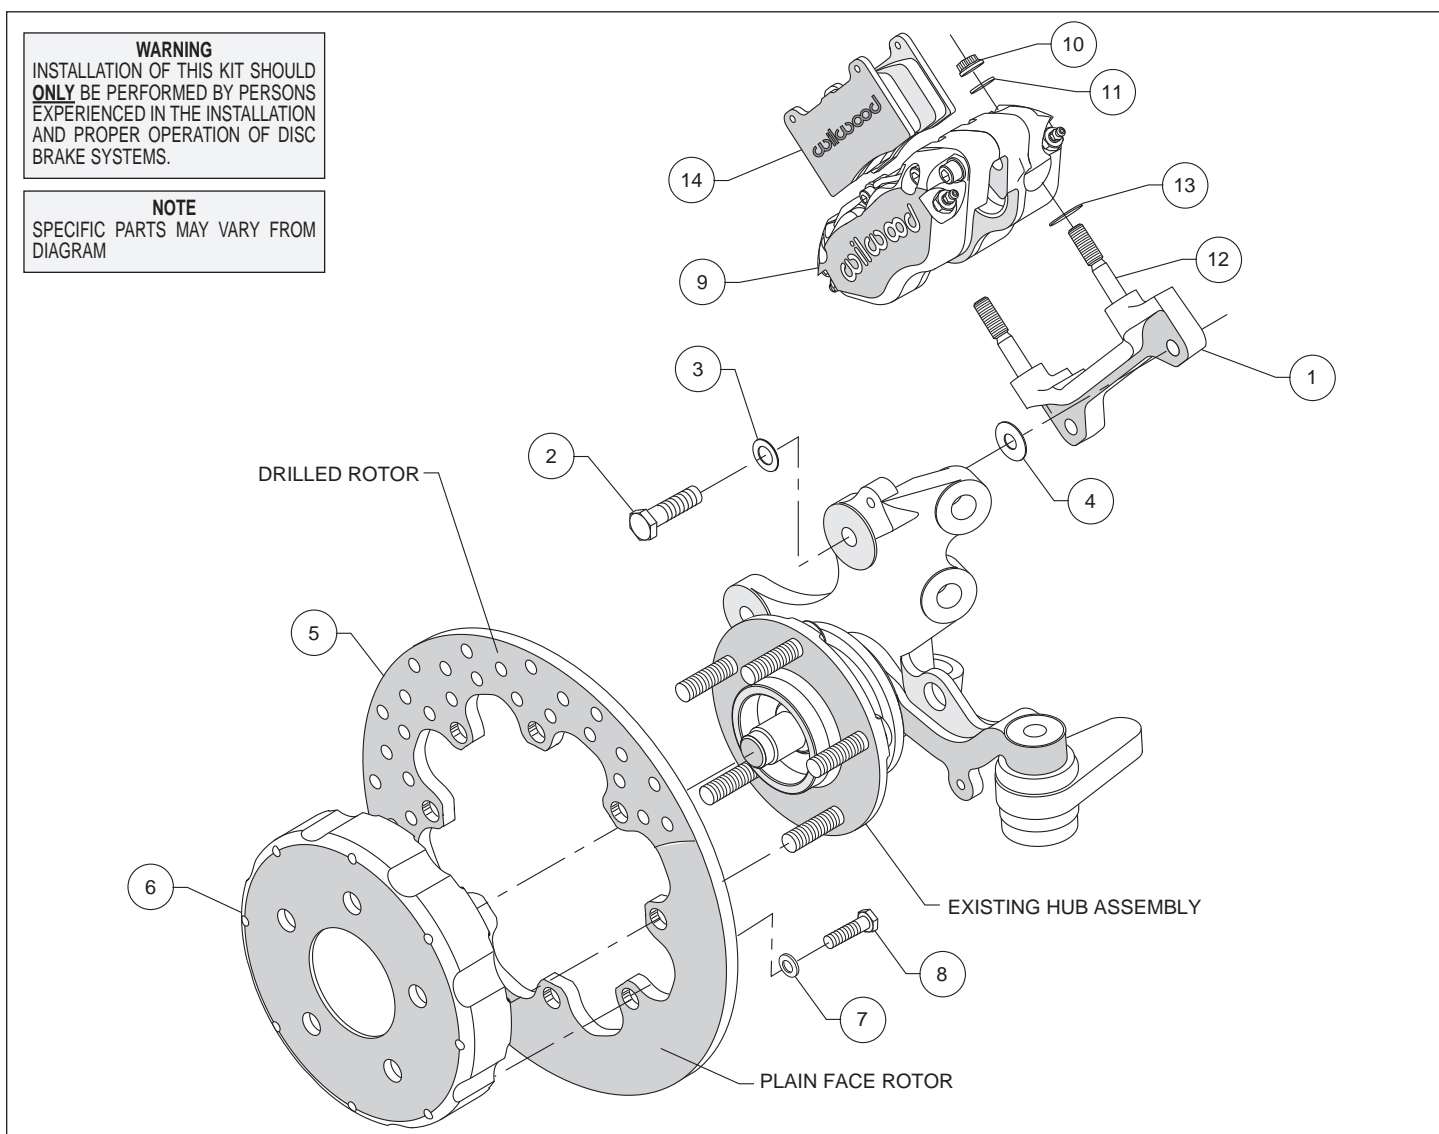
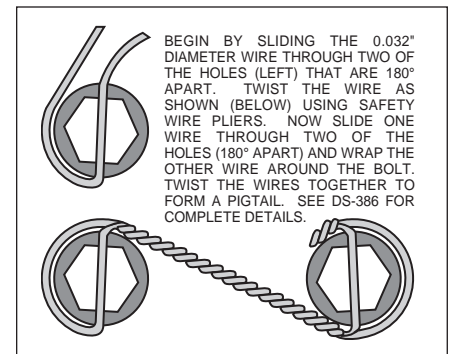

Figure 1. Typical Installation Configuration
Figure 3. Safety Wire Diagram
- The caliper mount bracket assembly (1) should be installed first with clean, dry threads on the mounting bolts. Install the bracket on the inboard side of the spindle by sliding bolt (2) through flat washer (3), and spindle ear from the outboard side of the spindle. Place shim washer (4) between the bracket (1) and the spindle (see figure 1). The bracket must tighten squarely against the inboard side of the caliper mount bosses on the spindle body. Inspect for interference from casting irregularities, machining ridges, burrs, etc. Use one thin shim (4) between the bracket and spindle during initial trial fitting. Later, after the caliper, pad, and rotor alignment has been checked, and any necessary shims have been put in place, the mount bolts should be coated with red *Loctite*® 271 and torqued to 60 ft-lbs.
- Assemble the rotor (5) to the hat (6) with the bolts (8) and washers (7) as shown in Figure 1. Using an alternating sequence, apply red *Loctite*® 271 to the threads and torque bolts to 25 ft-lb. For an added measure of security, the bolts may be safety wired using standard 0.032 inch diameter stainless steel safety wire as shown in Figure 3-. Please refer to Wilwood's data sheet DS-386 (available at www.wilwood.com/Pdf/DataSheets/ds386.pdf) for complete safety wire installation instructions.
- Lubricate caliper mounting studs (12) and nuts (10) with lightweight oil. Install one shim (13) over each stud (12) on the radial mount bracket. Slide the caliper (9) in place over the studs and rotors and install the washer (11) and lock nut (10) to hold the caliper in place. Snug the lock nuts (10) and check that the rotor (5) is centered in the caliper (9). Add or subtract .015" shims (4) as necessary between the mount bracket and the spindle to center the caliper.
- Remove the caliper center bridge pad retainer bolt, nut, and tube from the caliper. Slide the brake pads (14) into place. They should install easily without interference. Check that the outside radius of the brake pad is aligned with the outside diameter radius of the rotor face. Add or subtract shims (13) between the caliper and mount bracket to gain the proper alignment. Reinstall the center bridge pad retainer tube, bolt, and lock nut. The locknut should be snug without play in the bolt or tube. Be cautious not to over tighten.
- Once all clearances have been checked, remove the wheel, caliper, hat, and rotor from the spindle and hub. Secure the caliper mounting bracket (1) to the spindle using red *Loctite*® 271. Torque the bolts to 60 ft-lbs. Reinstall the hat and rotor assembly and again use several lug nuts to hold it in place. Reinstall the caliper, torque the caliper nuts (10) to 30 ft-lbs.